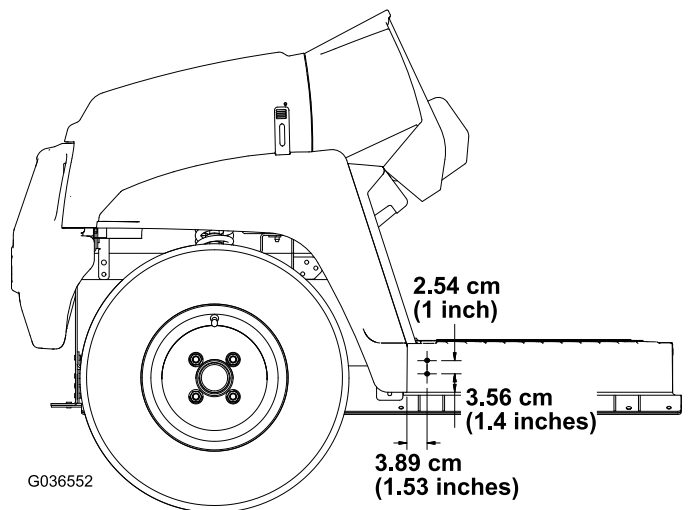

Figure 3
2. Using the dimensions shown in Figure 3, drill 2 holes ($5/16$ inch) into the outside of the floor plate on the left and right sides of the machine.